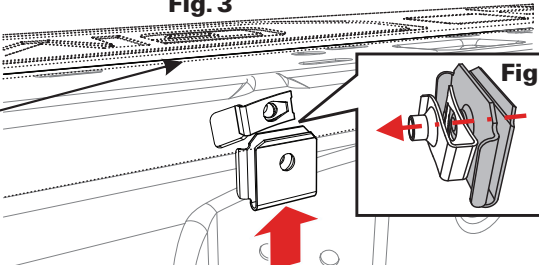
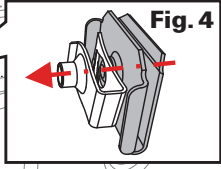
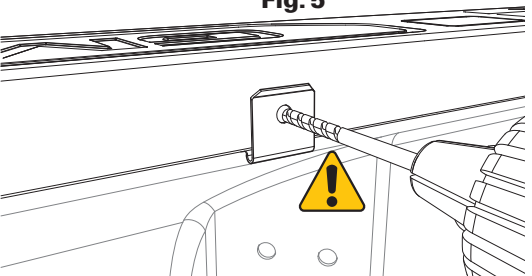

Fig. 3
Fig. 4
Fig. 5
Drill mounting holes - Slide the bed cap hole guide (E) onto the edge of the plastic truck bed cap and in between the cap and the bed (Fig. 3). Align the guide so that its back fits into the hole of the U-nut (Fig. 4). Drill a 7mm, (9/32") hole through the plastic truck bed cap using the bed cap hole guide (Fig. 5). The back of the guide will prevent the drill from hitting the truck bed. Repeat this for every U-nut location on both sides of the truck bed.